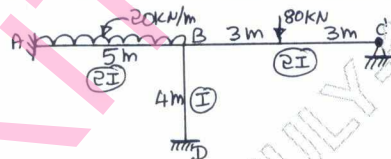

Fig.Q9
- 9 Analyze the rigid jointed frame as shown in Fig.Q9 by stiffness matrix method with system approach and also determine its bending moment diagram.